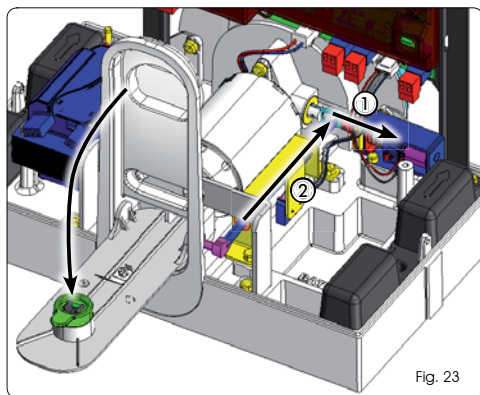

Fig. 23
👉 *Lowering the release lever, both the motor lock, which is retracted (Fig. 23 re. ①), and the safety microswitch forcing the automation to STOP (Fig. 23 re. ②) are operated.*